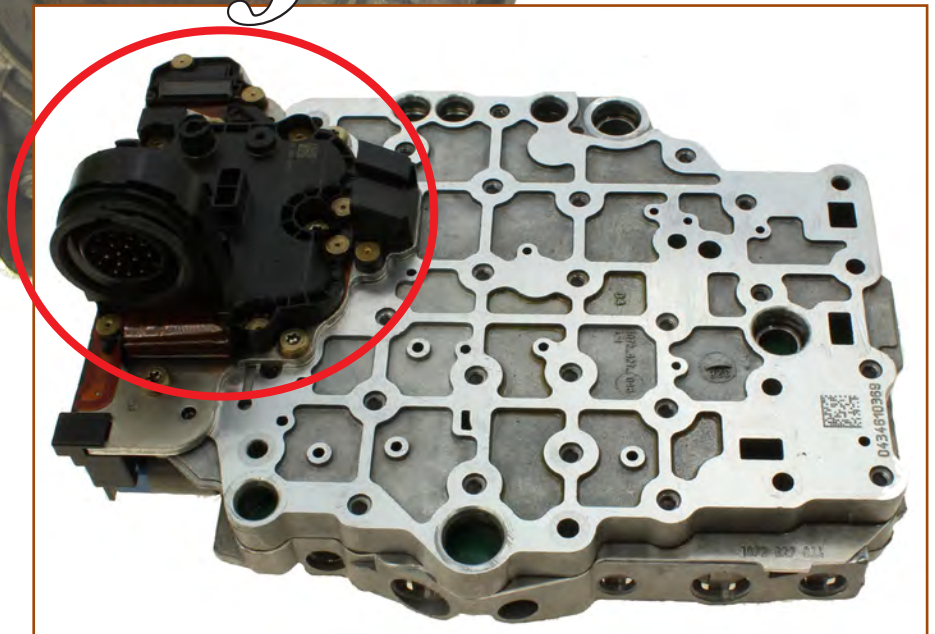

Figure 1
2. Replace the Mechatronic unit (Figure 1)